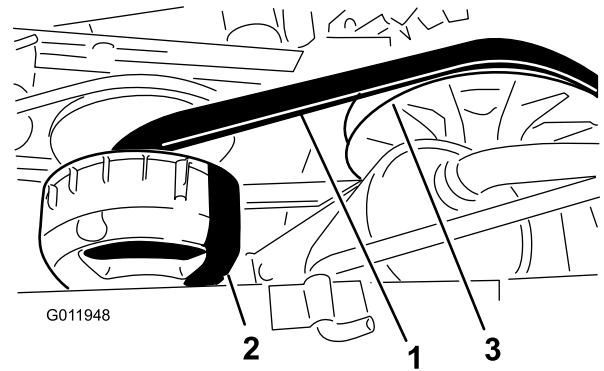

Figure 54
4. Rotate and inspect the belt (Figure 54) for signs of excessive wear or damage.
3. Rotate and route the belt over the secondary clutch (Figure 54).
4. Remove the belt from the primary clutch (Figure 54).
5. Align the new belt over the primary clutch (Figure 54).
6. Rotate and route the belt over the secondary clutch (Figure 54).